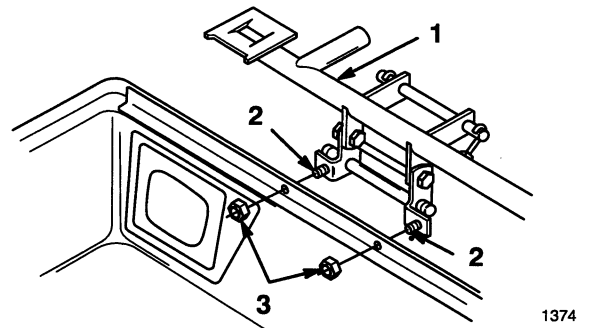

Figure 9
4. Mount the frame hinge to the cover with (2) 1/4" bolts attached to it. Secure with (2) 1/4" lock nuts (Fig. 9).